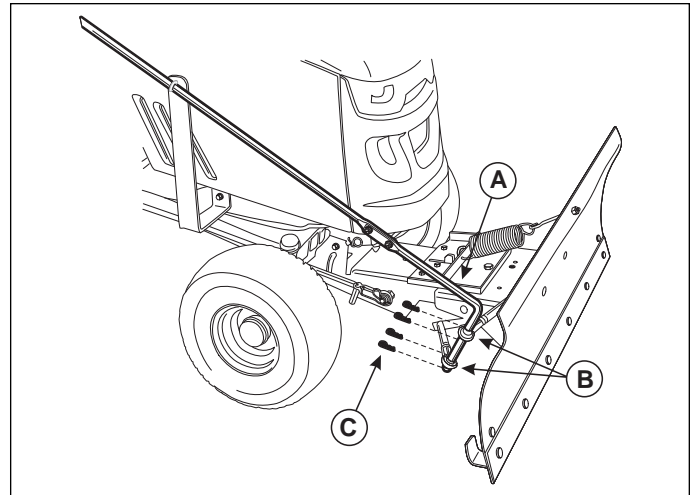

Figure 16. Control Arm Removal
2. Remove the four (4) hair pins (C, Figure 16) from the control arm (A) and remove the control arm from the snow blade assembly.